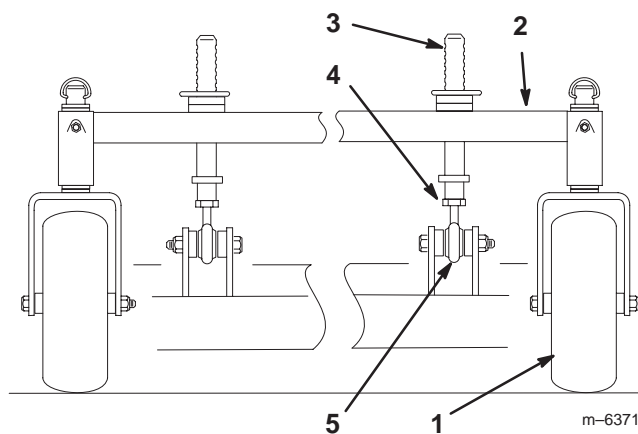

Figure 55
1. To change the front-to-rear pitch, the front height-of-cut posts can be adjusted (Fig. 55).
2. To raise the front of the deck, loosen jam nut and rotate the front pin clockwise (Fig. 55).
3. To lower the front of the deck, loosen jam nut and rotate the front pin counter clockwise (Fig. 55).
6. Tighten the jam nuts (Fig. 55).